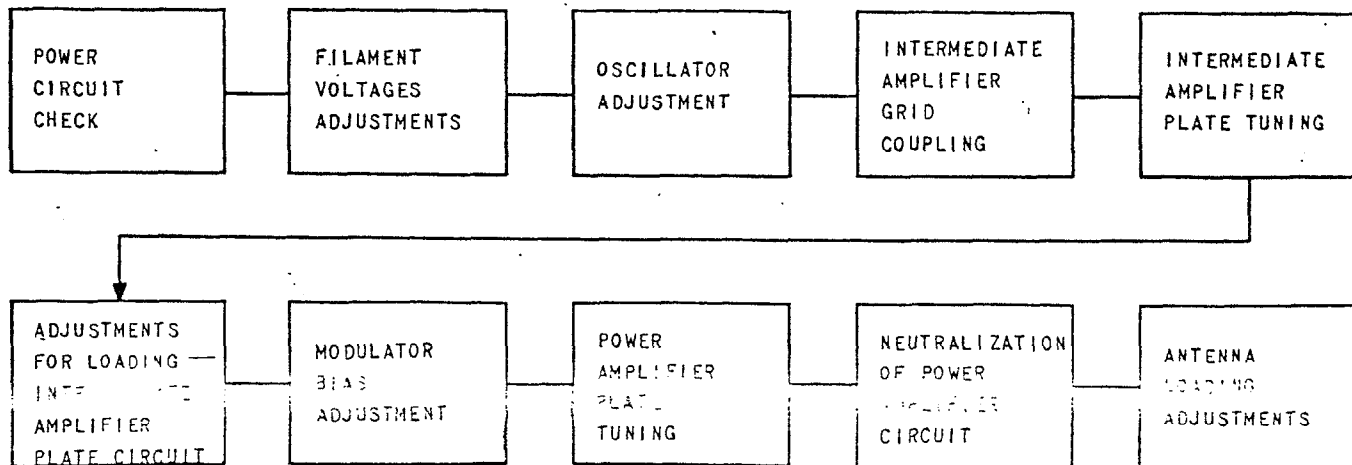

Figure 3-8. Block Diagram of Adjustments
c. **OUTLINE OF ADJUSTMENTS.**—A brief outline of adjustment procedure is given in the block diagram (figure 3-8). The adjustment procedure is treated in a step-by-step manner in a later paragraph following this brief outline.
- (1) Power Circuit Check
- (2) Filament Circuit Adjustment
- (3) Oscillator Adjustments
- (4) Intermediate Amplifier Grid Adjustment
- (5) Intermediate Amplifier Plate Tuning
- (6) Power Amplifier Grid Adjustment
- (7) Modulator Bias Adjustment
- (8) Power Amplifier Plate Tuning
- (9) Neutralization
- (10) Antenna Loading Adjustments